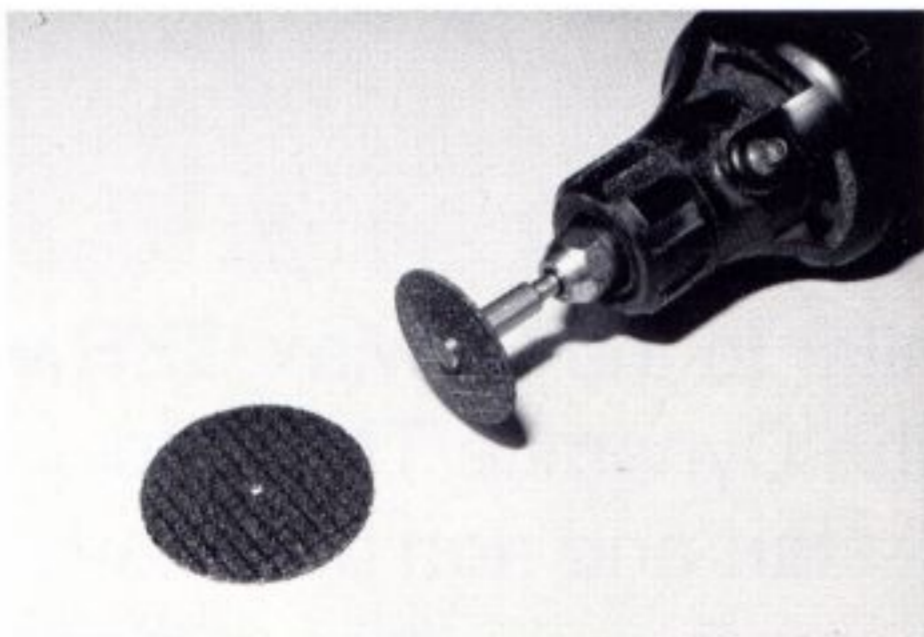

Fig. 243
□ **Figs. 243 & 244** We will now need to get out the Dremel tool, the fiber reinforced cutoff wheel and especially your safety glasses. **Warning:** We recommend using only the fiber reinforced wheels, not the cutoff stones, for your own safety. The cutoff stones can shatter and cause injury. Fig. 243 shows the correct fiber reinforced cutoff wheel next to our Dremel tool.